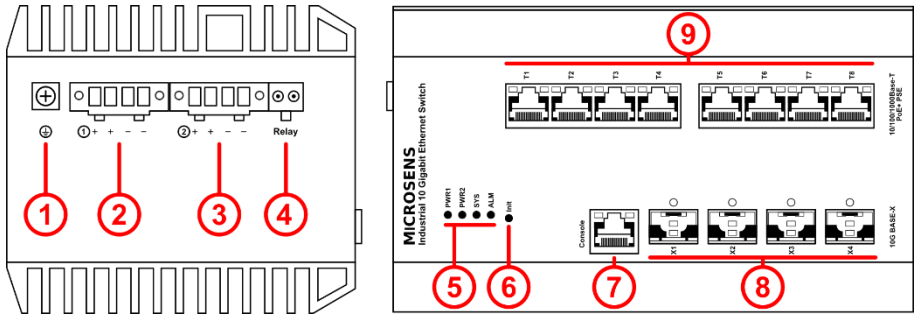

Fig. 1: Display and Connections
Ground the switch housing with the grounding screw on the side of the housing (s. Fig. 1, ①)! Always make the ground connection first and disconnect it at the end.
The switch is powered by a 48...57 VDC power connection (s. Fig. 1, ②). For redundancy or load sharing reasons it is possible to connect a second power source using the same voltage with the redundant power supply port (s. Fig. 1, ③). If one source fails, the alternative source takes over the power supply without interruption.
Both power supply connectors (s. Fig. 1, ② and ③) are equipped with 4-pin plug connectors. Please observe the polarity (terminal labelling +--+).
The status LEDs on the device's front side (s. Fig. 1, ⑤) have the following meaning: